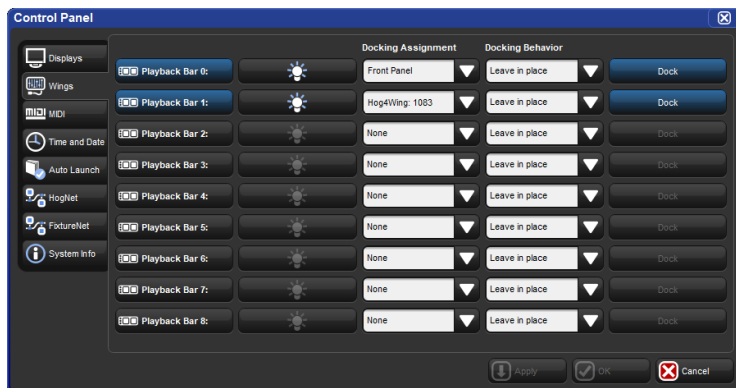

Figure 3.12. Wings pane of the Control Panel with active front panel and wing docking assignments
2. Setup → Control Panel → Wings : open the Wings pane of the Control Panel window (see *Figure 3.12, "Wings pane of the Control Panel with active front panel and wing docking assignments"*).